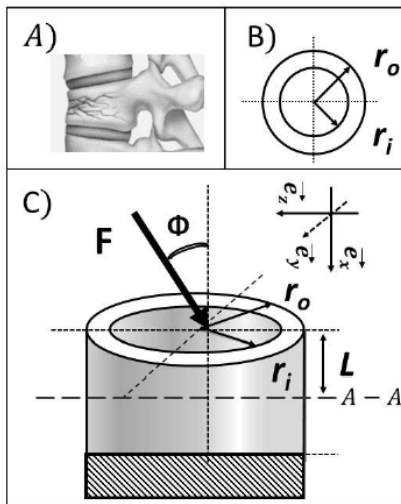

Figure 2: Loading state of a vertebra simplified and shown as a free body diagram
7. A skier hits an obstacle with his leg. This results in a force F_1 acting on the upper end of the tibia. In addition, the tibia is loaded with a force $F_2 = 300$ N caused by the body weight of the skier (see Figure 2. A). The foot of the skier is fixed in the boot, so the loading scenario on the tibia can be modeled as shown in Figure 2. C. The force F_2 acts at the center of the tibias cross-section. The tibia can be approximated as a hollow cylinder with a constant inner radius r_i and a constant outer radius r_o (see Figure 2. B)